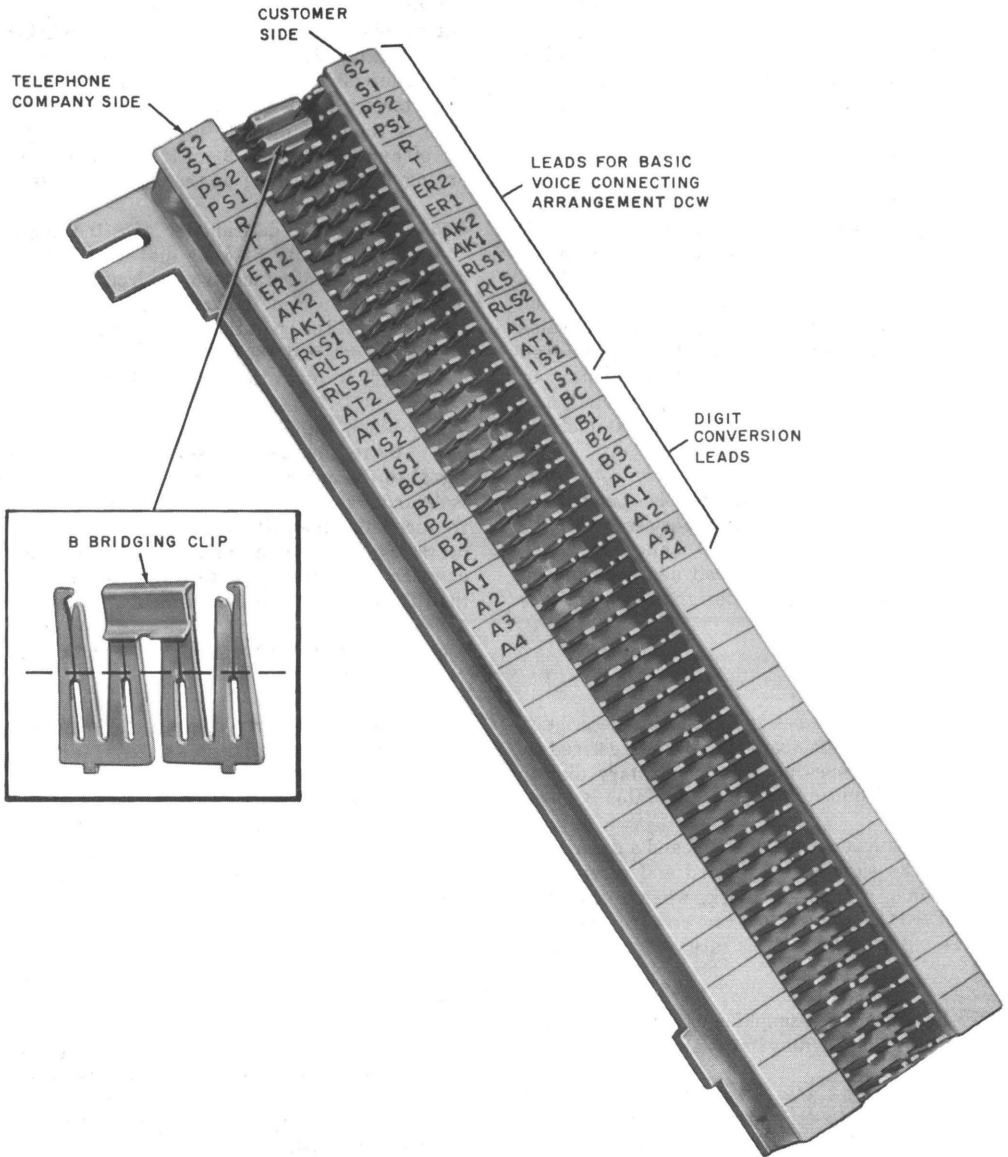

Fig. 2—Typical Interface Connecting Block
- Block, Connecting, 66M1-50 (Fig. 2)
**3.02** Use the "D" inside wiring cable or equivalent to terminate the leads associated with the CP equipment on the interface connecting block. Stencil trunk number and lead designations on interface connecting block designation strip (see Fig. 2).